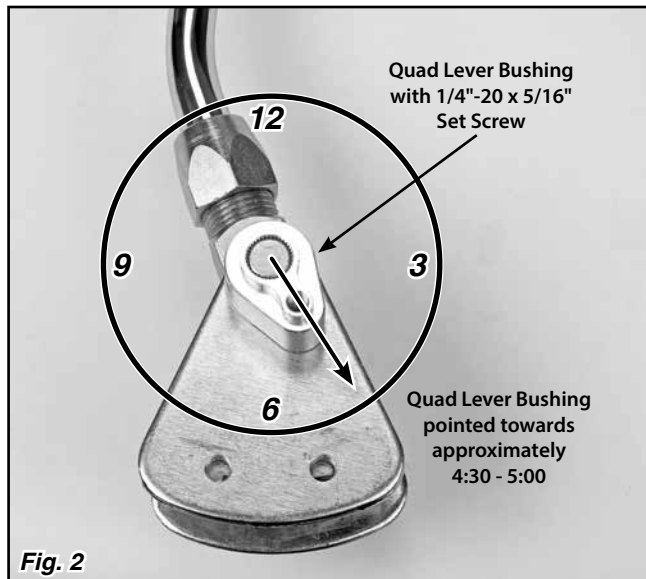

Fig. 2
**Step 1:** With the Shifter in Park, verify that the quad lever bushing on the Shifter is pointed towards approximately the 4:30 - 5:00 position as shown in **Fig. 2**. If it is not, loosen the set screw in top of the quad lever bushing using a 1/8" Allen wrench. Slide the bushing off of the Shifter. Reinstall the bushing pointed towards approximately the 4:30 - 5:00 position as shown. Retighten the set screw.